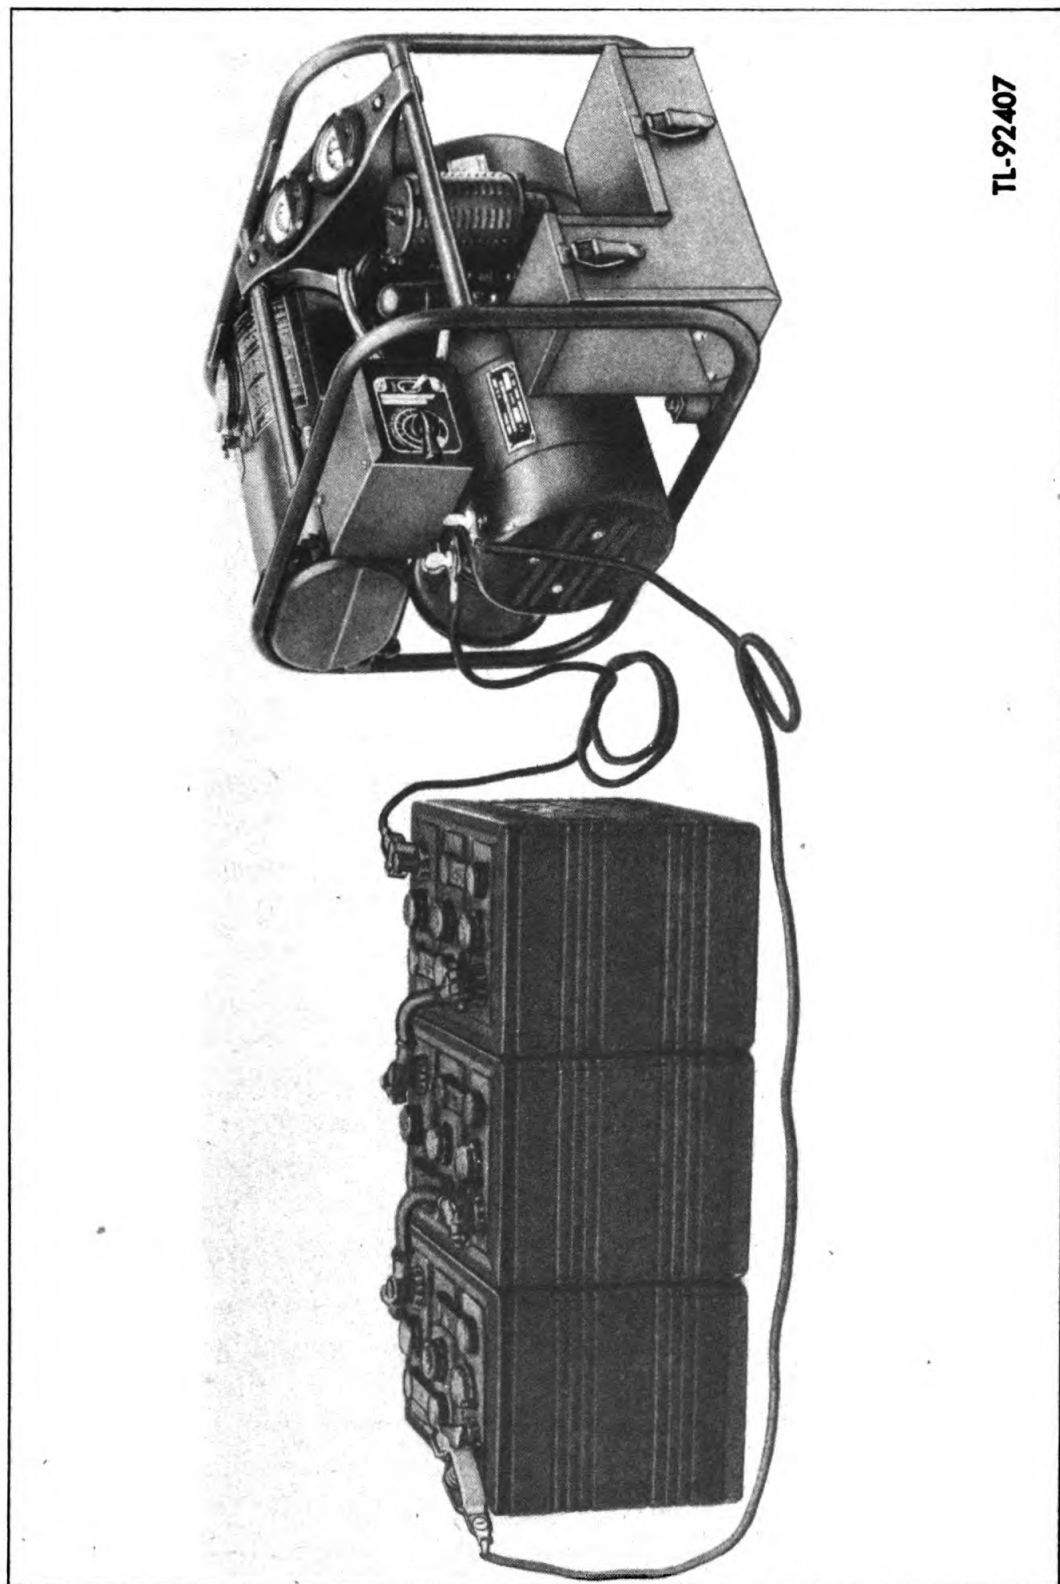

Figure 4. Six-volt storage batteries connected in series for recharging
c. Charging Storage Batteries. Power Unit PE-210 is capable of charging 6-, 12-, and 18-volt storage batteries. Three 6-volt batteries only, connected in series (fig. 4), can be charged simultaneously. To connect up the unit for the charging operation, follow the same procedure as outlined in paragraph 6 b, except the charging rheostat on the control box should be set to the approximate location on the dial conforming with the voltage of the battery to be charged before starting the engine. Turning the rheostat to the right (clockwise) increases the charging rate; turning it to the left (counterclockwise), decreases the charging rate.